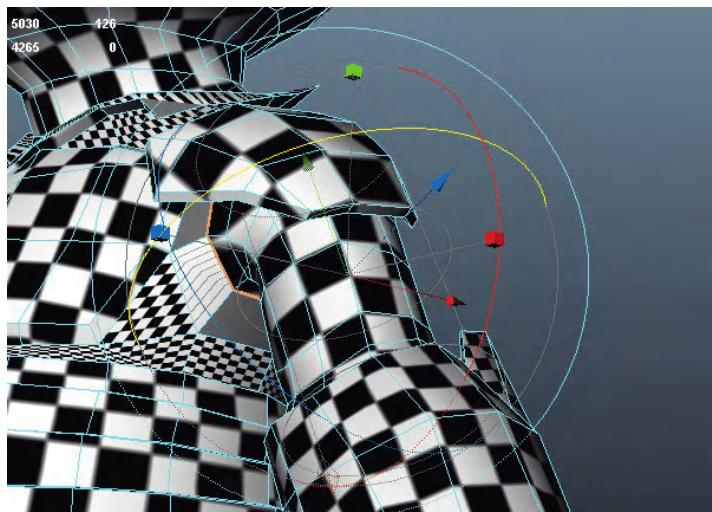

FIG. 5.48 Mapping the arms or legs.
Step 27: Repeat for shapes like the arms, legs, and chest (Fig. 5.48).